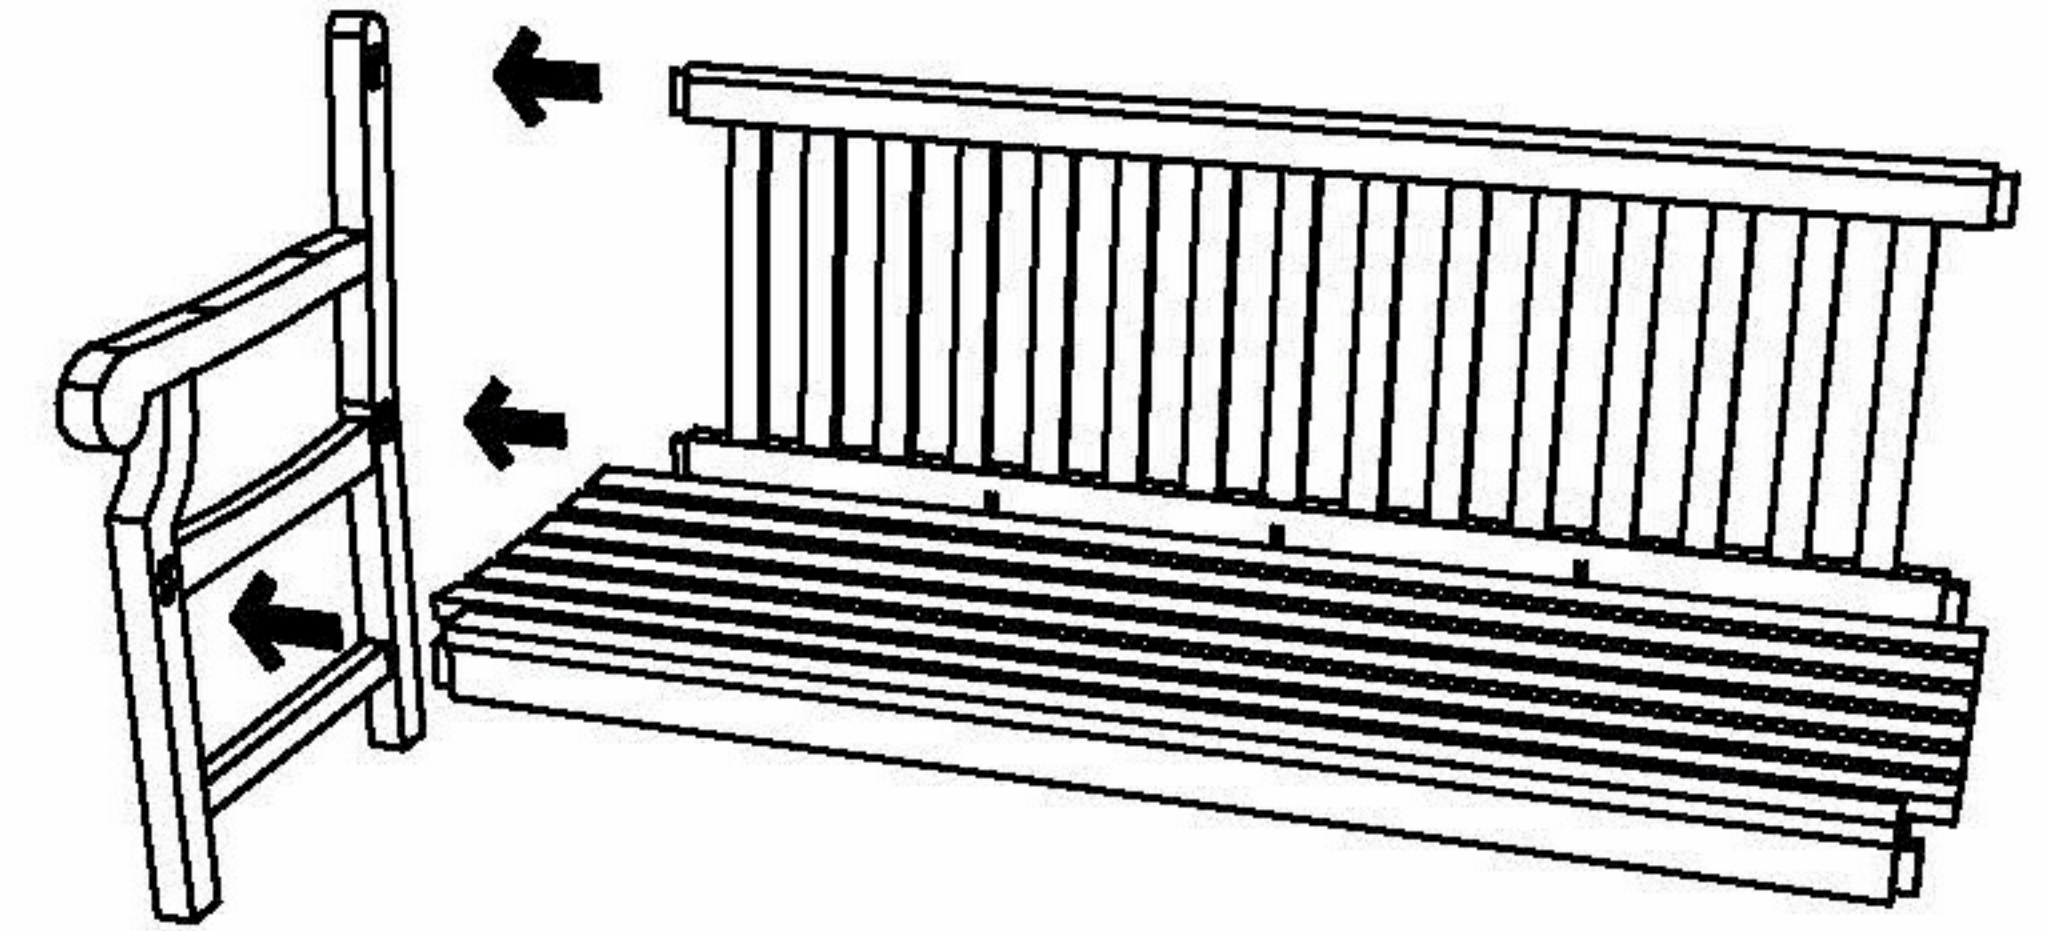

fig 3.
4. Insert to the leg. (Fig. 3)